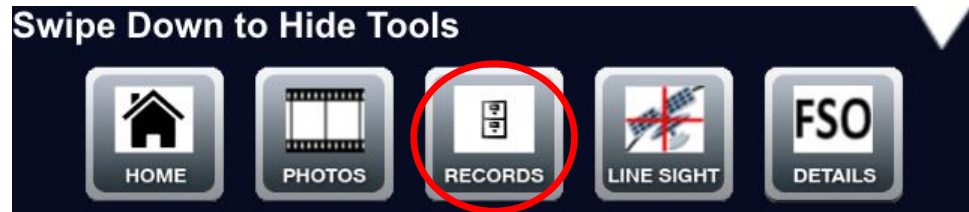

Figure 10: Records icon in bottom toolbar
1. In the bottom toolbar, tap the Records icon (circled in Figure 10) to navigate to the Records step.